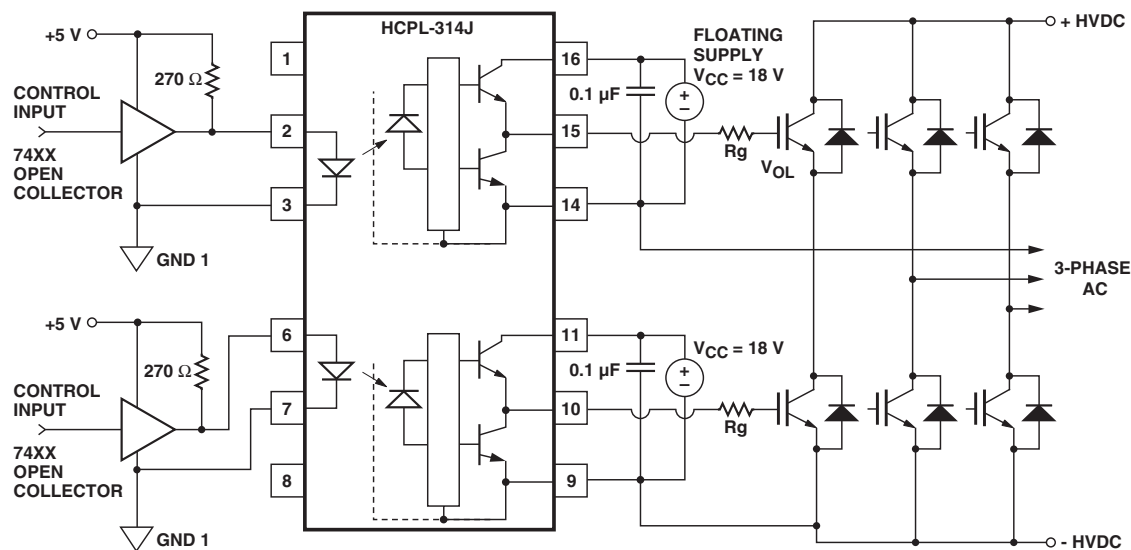
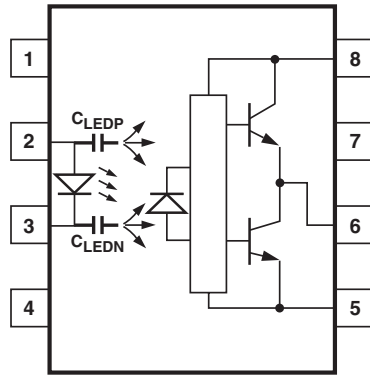
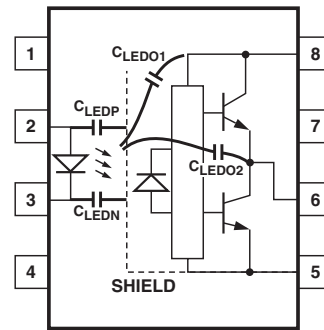
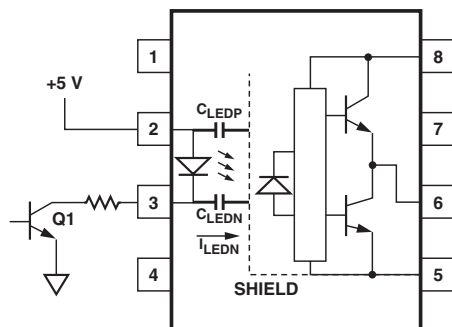

Figure 19. Recommended LED Drive and Application Circuit for HCPL-314J.
Figure 21. Optocoupler Input to Output Capacitance Model for Unshielded Optocouplers.
Figure 22. Optocoupler Input to Output Capacitance Model for Shielded Optocouplers.
Figure 24. Not Recommended Open Collector Drive Circuit.
To keep the IGBT firmly off, the HCPL-314J has a very low maximum V_{OL} specification of 1.0 V. Minimizing R_g and the lead inductance from the HCPL-314J to the IGBT gate and emitter (possibly by mounting the HCPL-314J on a small PC board directly above the IGBT) can eliminate the need for negative IGBT gate drive in many applications as shown in Figure 19. Care should be taken with such a PC board design to avoid routing the IGBT collector or emitter traces close to the HCPL-314J input as this can result in unwanted coupling of transient signals into
the input of HCPL-314J and degrade performance. (If the IGBT drain must be routed near the HCPL-314J input, then the LED should be reverse biased when in the off state, to prevent the transient signals coupled from the IGBT drain from turning on the HCPL-314J.) An external clamp diode may be connected between pins 14 & 15 and pins 9 & 10 (as shown in Figure 19) for the protection of HCPL-314J in the case of IGBTs switching inductive load.
Step 1: Calculate Rg minimum from the IOL peak specification. The IGBT and Rg in Figure 24 can be analyzed as a simple RC circuit with a voltage supplied by the HCPL-314J.
where $KICC \bullet Qg \bullet f$ is the increase in ICC due to switching and KICC is a constant of 0.001 mA/(nC*kHz). For the circuit in Figure 19 with IF (worst case) = 10 mA, Rg = 32 Ω, Max Duty Cycle = 80%, Qg = 100 nC, f = 20 kHz and TMAX = 85°C:
Without a detector shield, the dominant cause of optocoupler CMR failure is capacitive coupling from the input side of the optocoupler, through the package, to the detector IC as shown in Figure 21. The HCPL-314J improves CMR performance by using a detector IC with an optically transparent Faraday shield, which diverts the capacitively coupled current away from the sensitive IC circuitry. However, this shield does not eliminate the capacitive coupling between the LED and optocoupler pins 5-8 as shown in Figure 22. This capacitive coupling causes perturbations in the LED current during common mode transients and becomes the major source of CMR failures for a shielded optocoupler. The main design objective of a high CMR LED drive circuit becomes keeping the LED in the proper state (on or off) during common mode transients. For example, the recommended application circuit (Figure 19), can achieve 10 kV/μs CMR while minimizing component complexity.
The open collector drive circuit, shown in Figure 24, can not keep the LED off during a $+dV_{CM}/dt$ transient, since all the current flowing through C_{LEDN} must be supplied by the LED, and it is not recommended for applications requiring ultra high CMR₁ performance. The alternative drive circuit which like the recommended application circuit (Figure 19), does achieve ultra high CMR performance by shunting the LED in the off state.